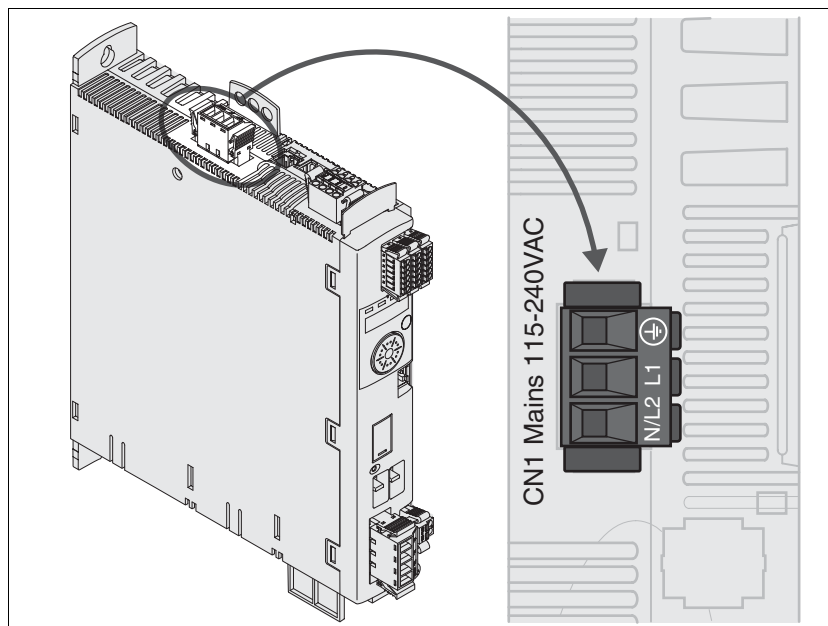

Figure 6.9 Wiring diagram power stage supply voltage for single-phase device.
- Connect the mains cable (Figure 6.9). Note the tightening torque specified for the terminal screws.